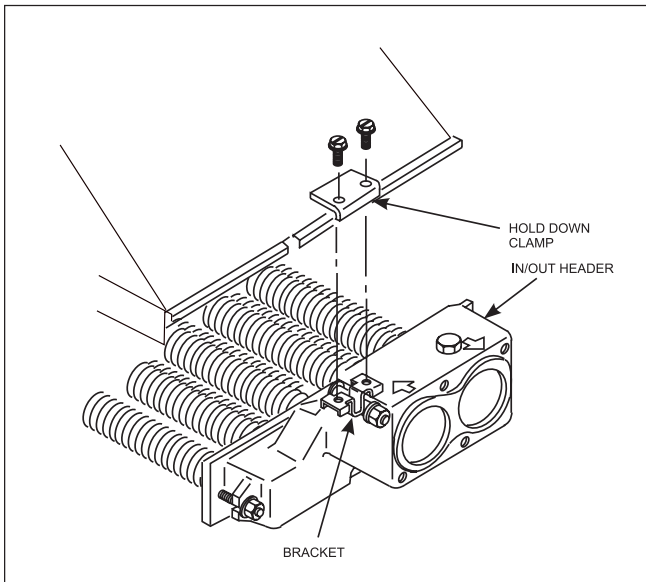

Figure 8. Flue collector hold-down brackets.
5. Remove the screws securing the two flue collector hold down clamps and remove the clamps (see Figure 8). Remove flue collector.
2. Connect the wires from the power source to the leads on the right side of the heater in the space behind the ignition control (see Figure 8). Be sure to follow the wiring diagram on page 7 to configure the transformer for the correct input voltage.